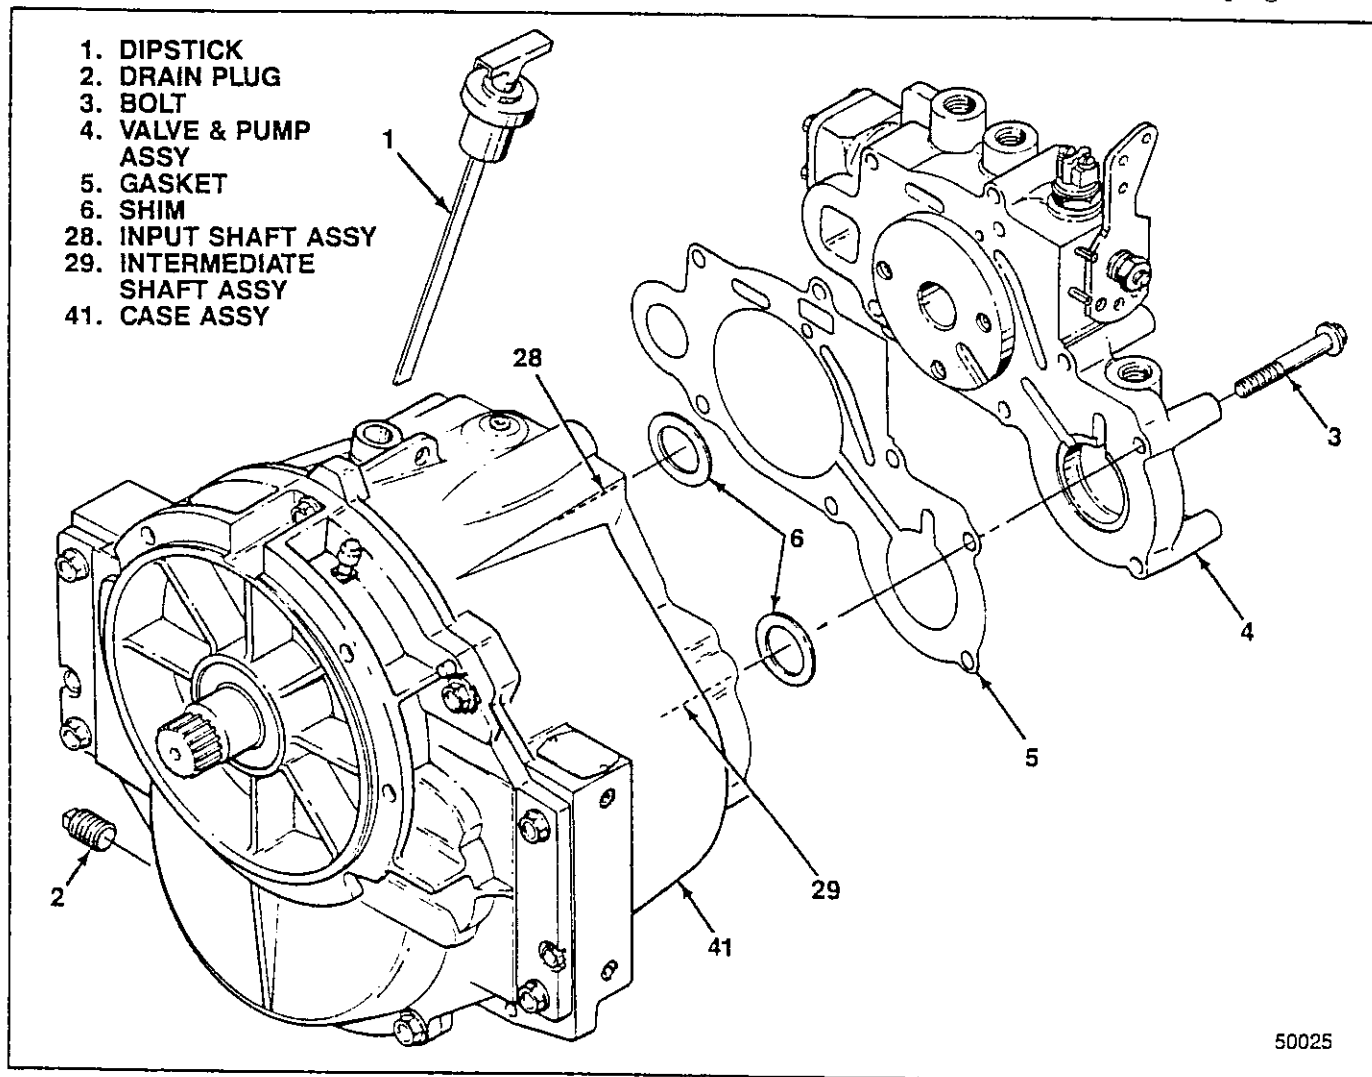

Figure 3-1. Valve and Pump Assembly
3.7. REMOVAL OF VALVE AND PUMP ASSEMBLY. Make sure that the transmission shift lever is in the neutral (center) position. With the transmission in its approximate installed position, begin disassembly as follows (See figure 3-1):